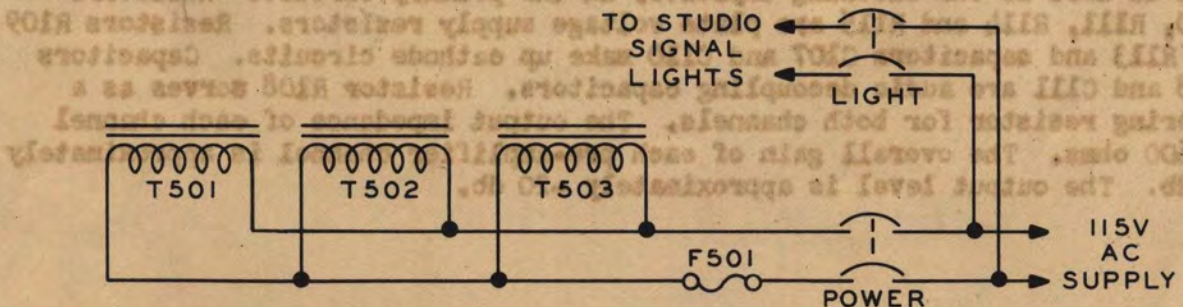

Figure 2-2 Primary Power Circuits
(2) PRIMARY POWER CIRCUITS. - This equipment has been designed to operate from a 115 volt, 60 cycle, single phase power source. The power consumption is approximately 250 watts. Refer to figure 2-2. Thermal type overload circuit breakers are used in the supply line to the power unit and studio signal lights. A fuse, F501, is used in the primary circuit of the power supply unit.